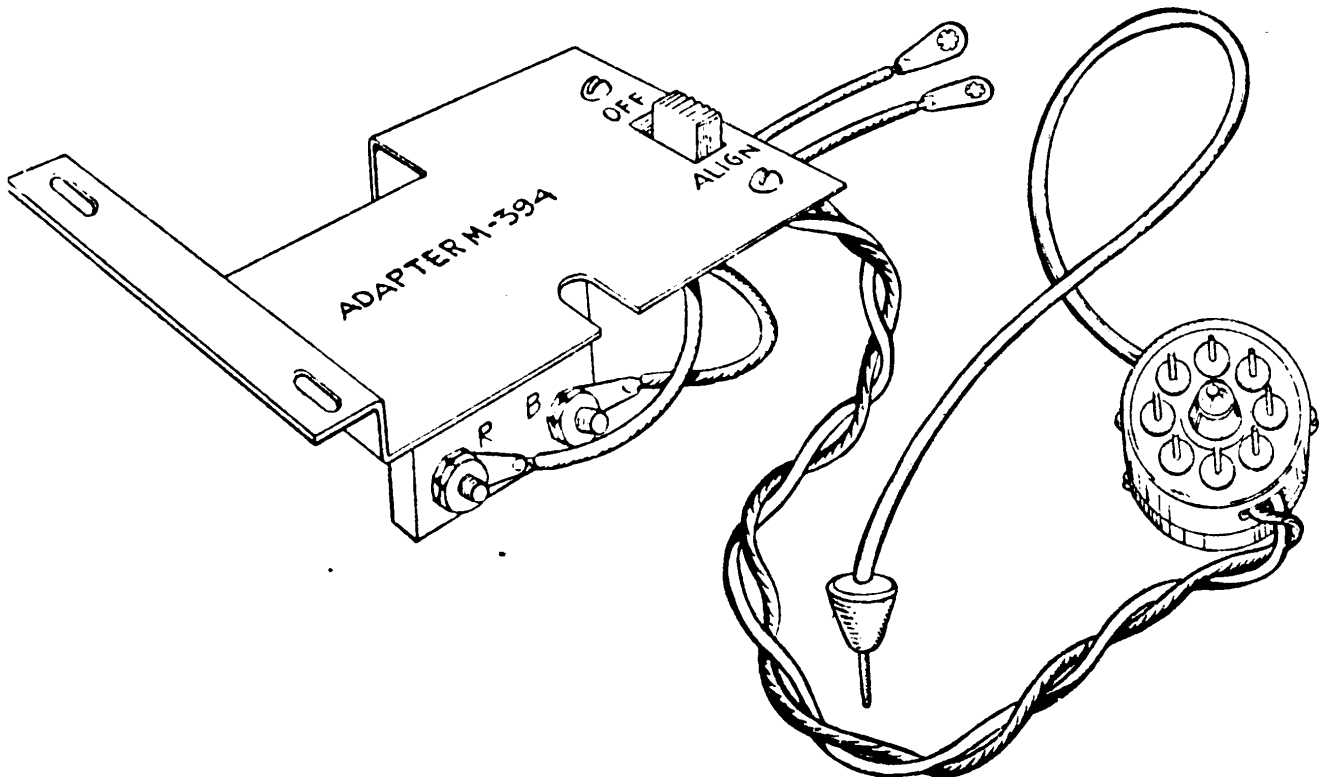

FIG. 2—ADAPTER M-394, TOP VIEW
(2) Adapter M-394, see Figs. 2 and 3, consists of a metal bracket on which is mounted a terminal block and a d.p.d.t., OFF-ALIGN, slide switch that is connected to a sepa-